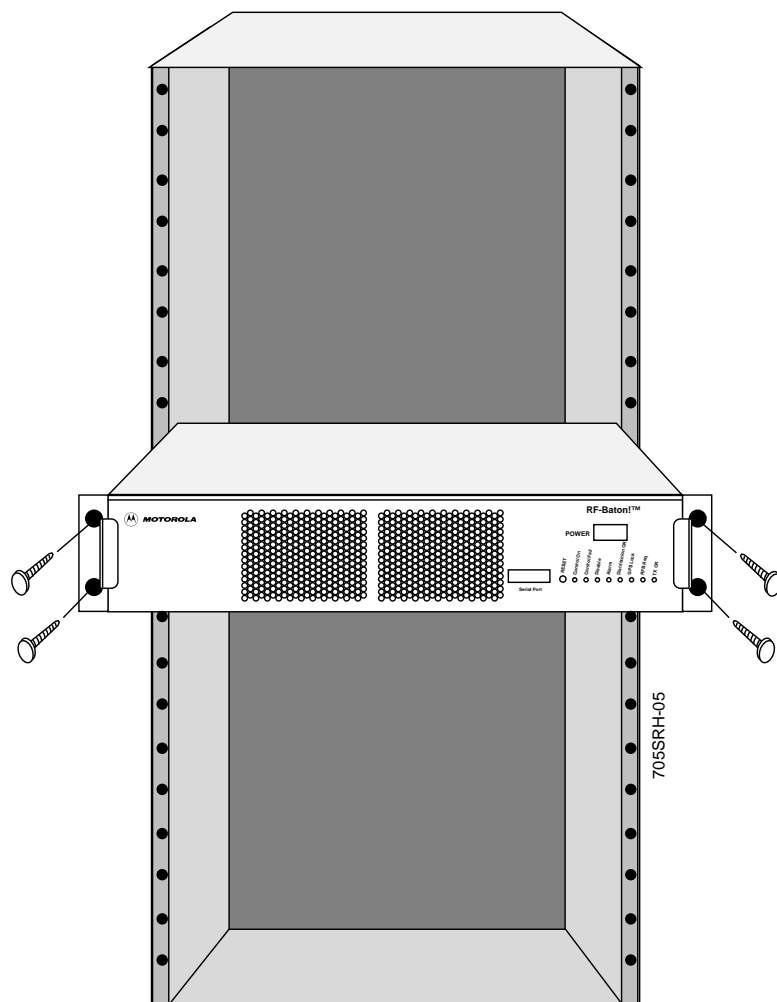

Figure 4-2: Installing the RF-B! Transmitter Controller into an EIA Standard 19-Inch (48.26 cm) Width Motorola Cabinet
5. Align the RF-B! transmitter controller mounting holes with the cabinet mounting holes and install the four T-30 TORX screws (see Figure 4-2).